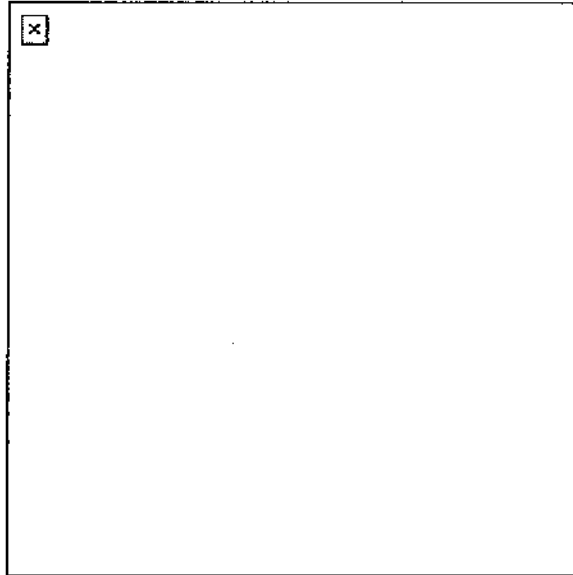

Figure 2. Removal of backplate pin.
- (3) Using the rim of a spent cartridge, pull the back plate pin straight out (Figure 2).